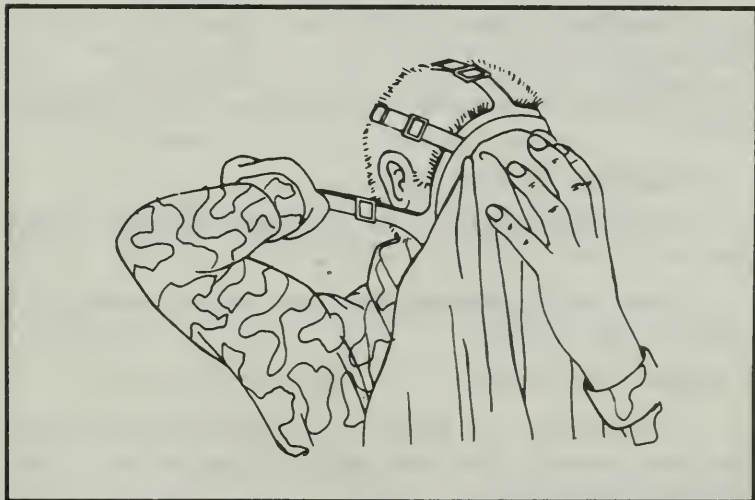

Figure 312. Tighten cheek straps.
i. While holding the facepiece to your face with one hand, maintain the seal. Using your other hand, tighten the cheek straps one at a time (Figure 312).